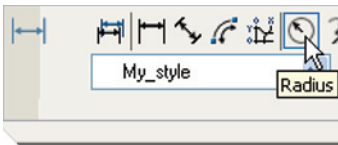

Fig. 6.6 The **Radius** tool icon in the **Dimensions** control panel
2. *Left-click* the **Radius** tool icon (Fig. 6.6). The command line shows: